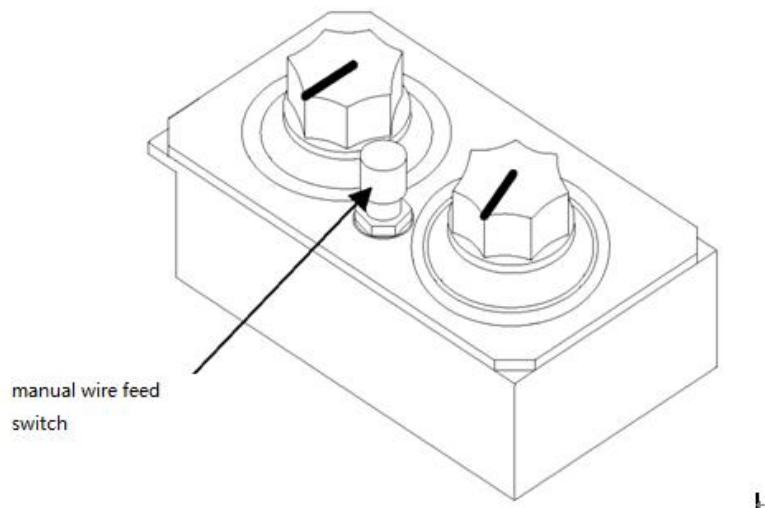

Fig.7 Wire feeder control box
Step 7: Press the “manual wire feed” button of the wire feeder control box and adjust the “welding current adjustment knob” to make the wire feed speed suitable until the 15-20 mm wire is exposed at the torch head. (Manual wire feed switch is shown in Figure 7)